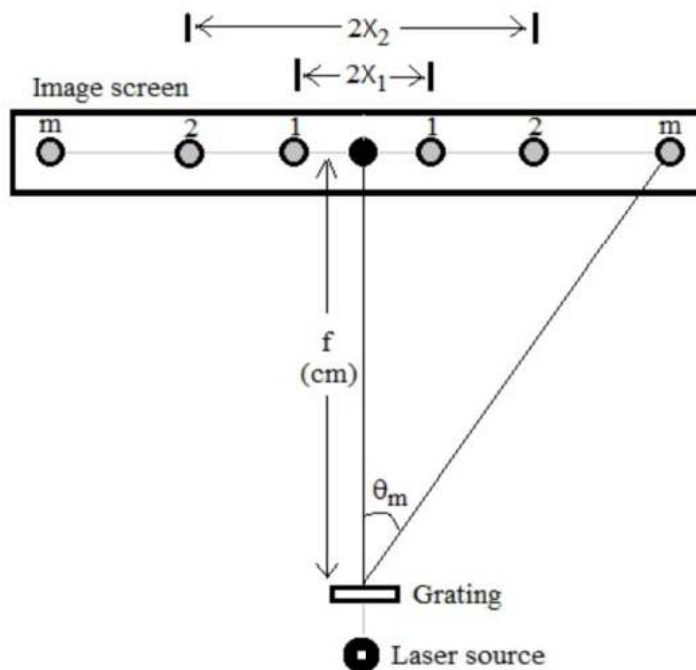

Fig. 5.2: Diffraction spot pattern and measurements.
4. Note down ' f ' in centimeters. In the graph sheet over the image screen, mark the spots $m = 1$ and 2 on either sides of the central spot (0^{th} order spot) as shown in Fig. 5.2 corresponding to the 1^{st} and 2^{nd} order diffractions, respectively.